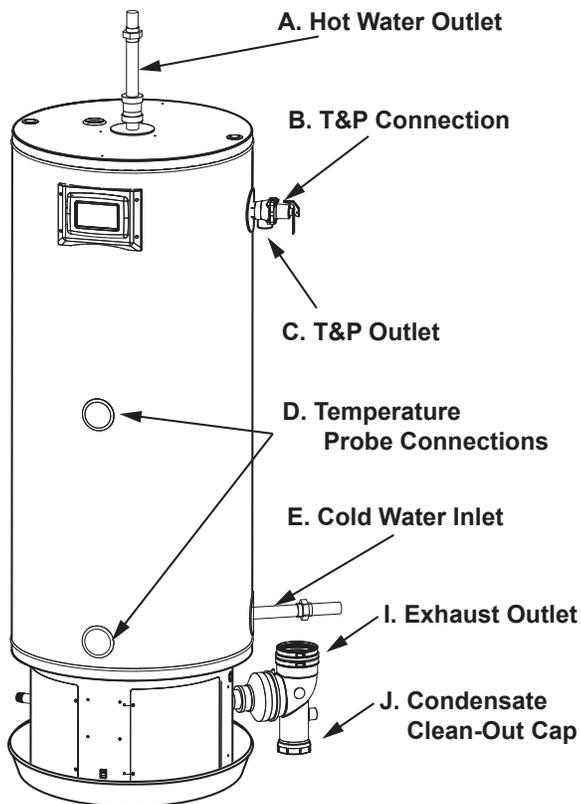

Figure 48. Leakage Checkpoints
E. Water from a drain valve may be due to the valve being slightly opened. (Not shown in *Figure 48*).
F. *The drain valve may be leaking at the tank fitting. (Not shown in *Figure 48*).
G. Leakage from recirculation plug or pipe connection. (Not shown in *Figure 48*).